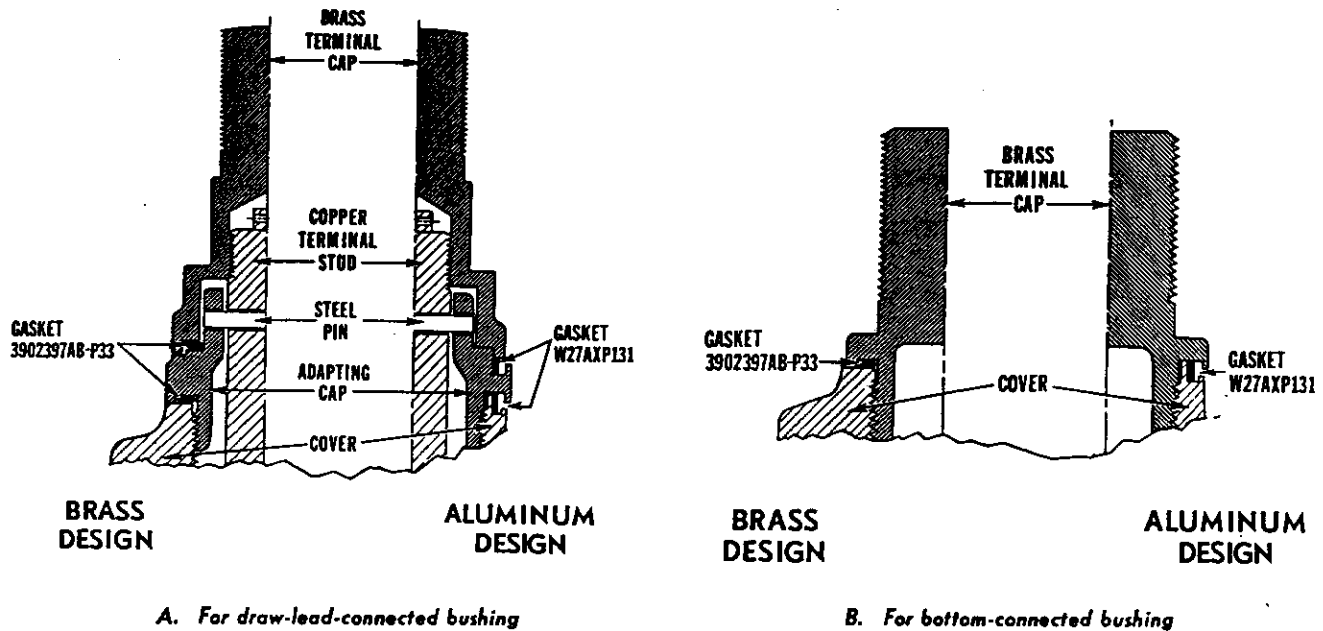

Fig. 5 Details of top end construction
Refer to Fig. 5. Remove the terminal cap, the steel pin, and the stud. Pass a wire or cord through the bushing core, and attach it to the hole in the top end of the terminal stud on the flexible cable. Lower the bushing into the opening in the cover, simultaneously pulling the cable up through the core. Secure the cable terminal stud to the top cap by replacing the steel pin. Coat the gasket with a thin film of light oil, and assemble it in position. Screw the terminal cap onto the terminal stud until the outside rim of the cap makes a metal-to-metal seat on the bushing cap. Avoid excessive tightening, since it will only bend the pin.
Examination of the illustration in Fig. 5 will show two possible current paths from the conductor to the terminal cap (1).